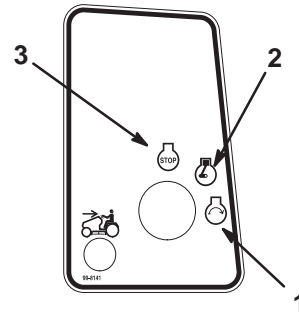

Figure 9
6. Turn the ignition key clockwise and hold it in the Start position (Fig. 9). When the engine starts, release the key.
2. Turn the ignition key to Off (Fig. 9).